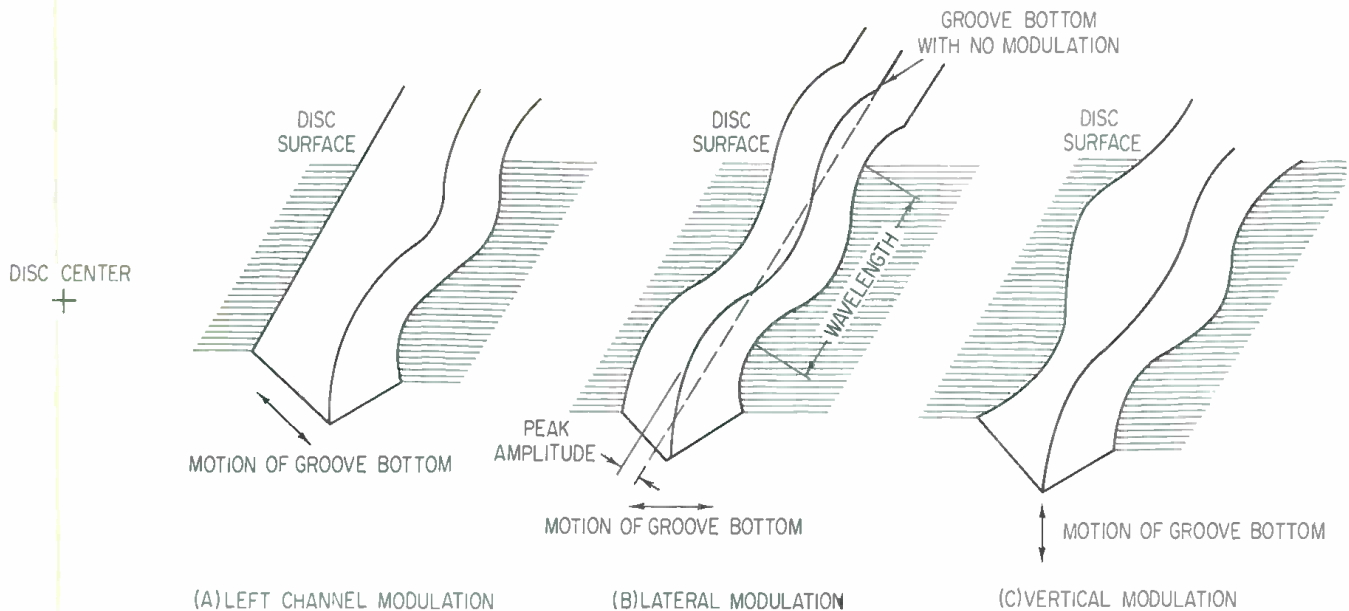

Figure 1. The static characteristics of a sinusoidal waveform in a disc groove.
**Static Characteristics.** Three important static characteristics of a sinusoidal waveform are shown in FIGURE 1.